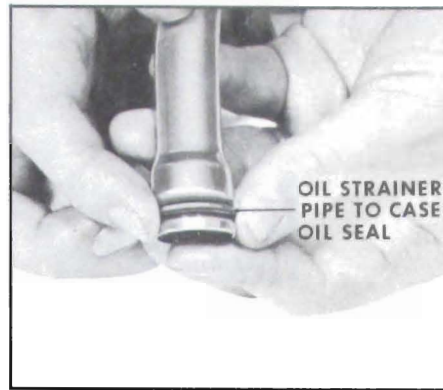

Figure 5-352
12. Install oil strainer pipe to case seal. See Figure 5-352.